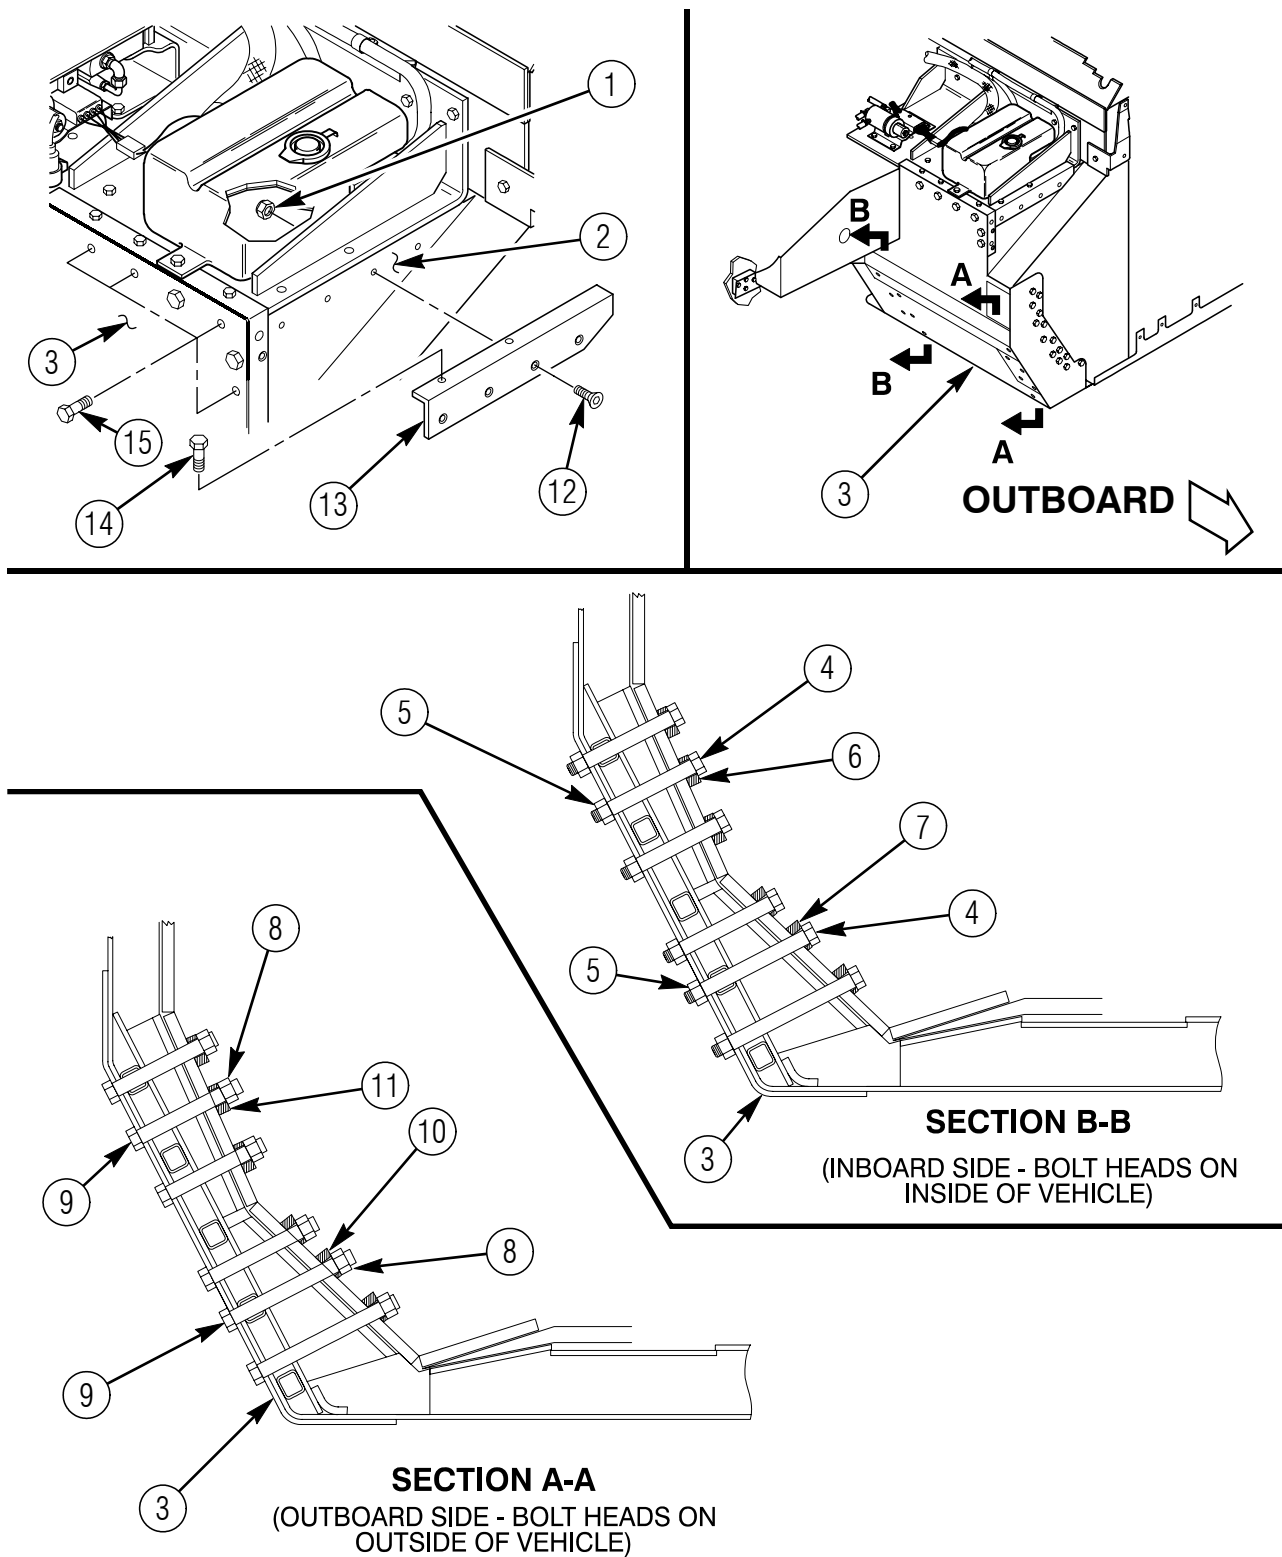

Figure 3.
3. Remove two capscrews (14), four socket head screws (12), four locknuts (1), and left front underbody side angle (13) from left front cowl (2) as shown in figure 3. Discard all parts.
4. Remove four capscrews (15) from front of left front underbody (3) as shown in figure 3. Discard capscrews (15).
5. Remove two locknuts (5), two capscrews (4), one upper kick panel wedge spacer (6), and one lower kick panel wedge spacer (7) from inboard side of left front underbody (3) as shown in figure 3. Discard capscrews (4) and locknuts (5). Note location and orientation of kick panel wedge spacers (6 and 7).
6. Remove two locknuts (8), two capscrews (9), one upper kick panel wedge spacer (11), and one lower kick panel wedge spacer (10) from outboard side of left front underbody (3) as shown in figure 3. Discard capscrews (9) and locknuts (8). Note location and orientation of kick panel wedge spacers (10 and 11).